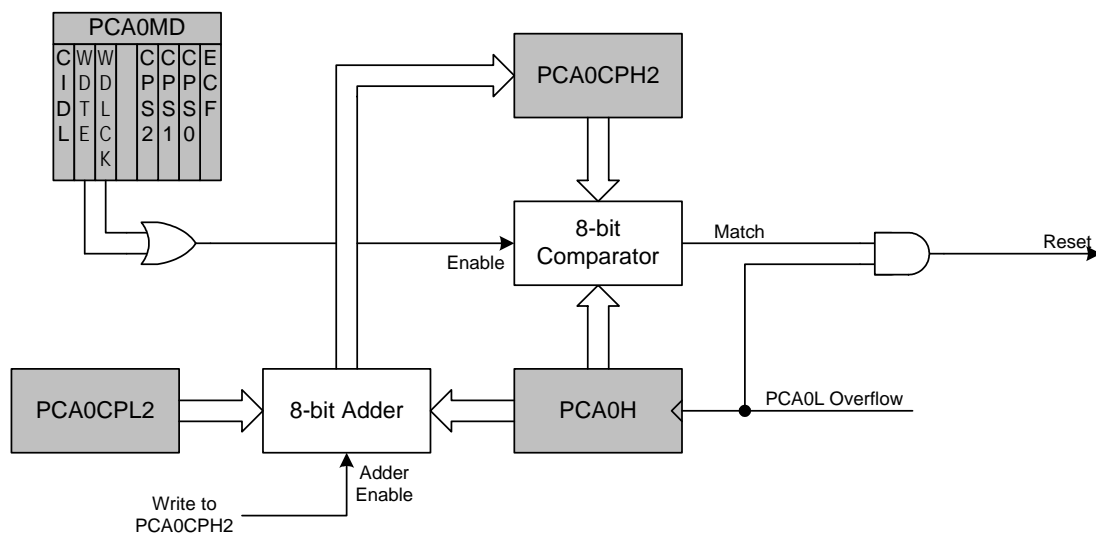

Figure 25.10. PCA Module 2 with Watchdog Timer Enabled
While the WDT is enabled, writes to the CR bit will not change the PCA counter state; the counter will run until the WDT is disabled. The PCA counter run control bit (CR) will read zero if the WDT is enabled but user software has not enabled the PCA counter. If a match occurs between PCA0CPH2 and PCA0H while the WDT is enabled, a reset will be generated. To prevent a WDT reset, the WDT may be updated with a write of any value to PCA0CPH2. Upon a PCA0CPH2 write, PCA0H plus the offset held in PCA0CPL2 is loaded into PCA0CPH2 (See Figure 25.10).